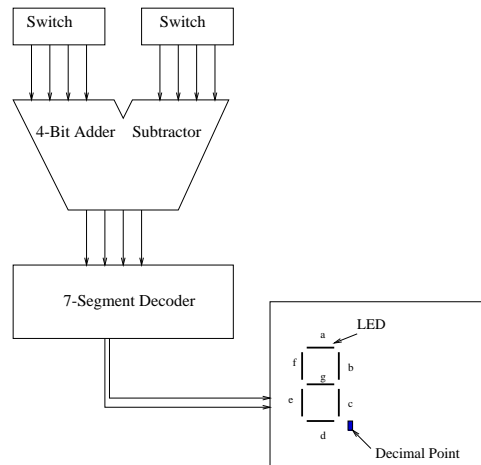

Figure 3: Adder Subtractor Design with Input Switches and 7-Segment Display.
Figure 3 shows the complete design that integrates the 4-bit adder/subtractor, the seven segment decoder and seven-segment display.
- **Interface** the 4-bit adder/subtractor to the 7-segment decoder built earlier and connect the overall design to the 7-segment display as seen in Figure 3 using VHDL.